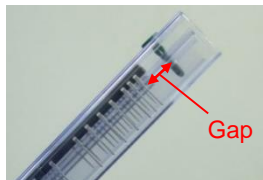

Fig. 2-1 Gap between the pin and the Small IPM
- ① Make a gap between the pin and the product. (See Fig. 2-1)